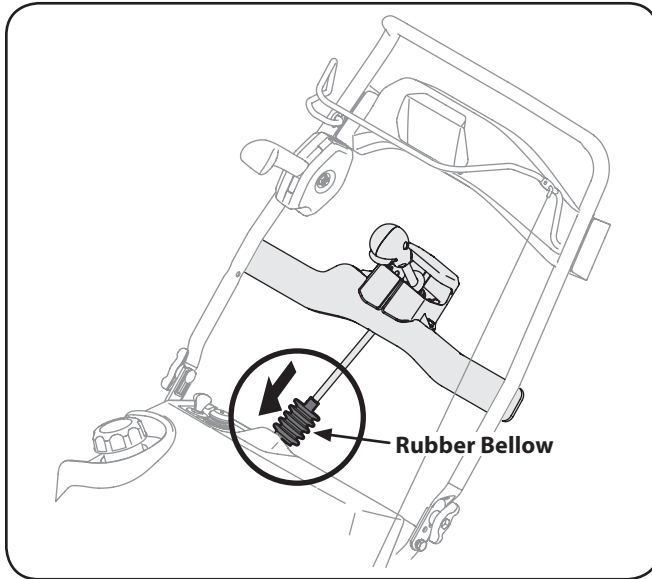

Figure 3-10
- Slide the rubber bellow over the universal joint. See Figure 3-10.